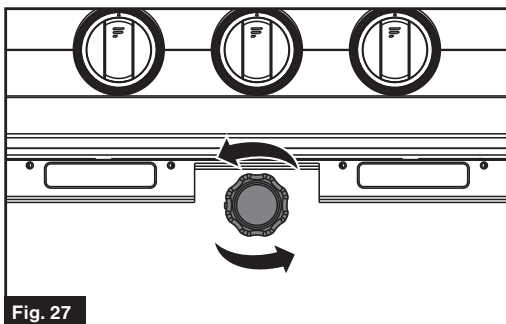

Fig. 27
- Remove the glass cover of the lamp-holder. (Fig. 27)